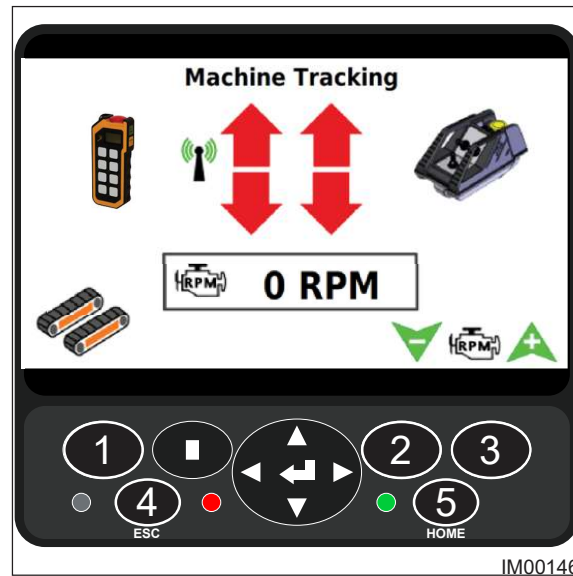

Fig: 6.11 - Track Screen
- ◇ The control panel identifies the handset is connected and the Track Screen displays (Fig: 6.11).
- Press the Tracks Disable button (Item 1, Fig: 6.11) on the display screen.